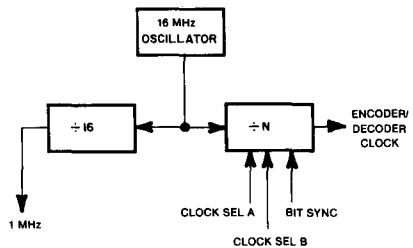

Fig. 7-27. Block diagram of timing circuit, Model 1541.
7.2.3 Timing Electrical Theory (Refer to Figs. 7-27 and 7-28)